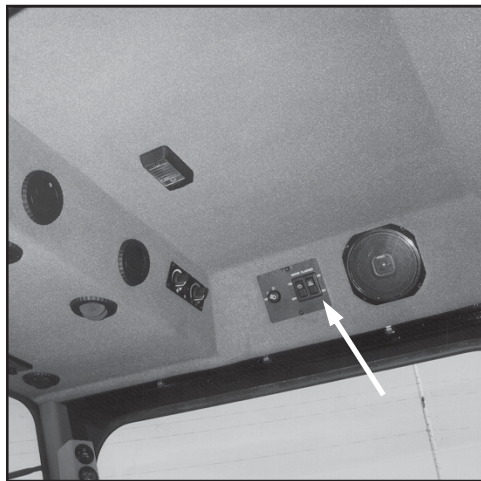

FIG 5.69
To activate the flashing hazard/warning lights (fig. 5.70 & 5.71, item 1), depress the “FLASHER” switch to the “ON” position (fig. 5.69). Activate the hazard/warning lights anytime traveling on a public road, day or night, unless prohibited by law.